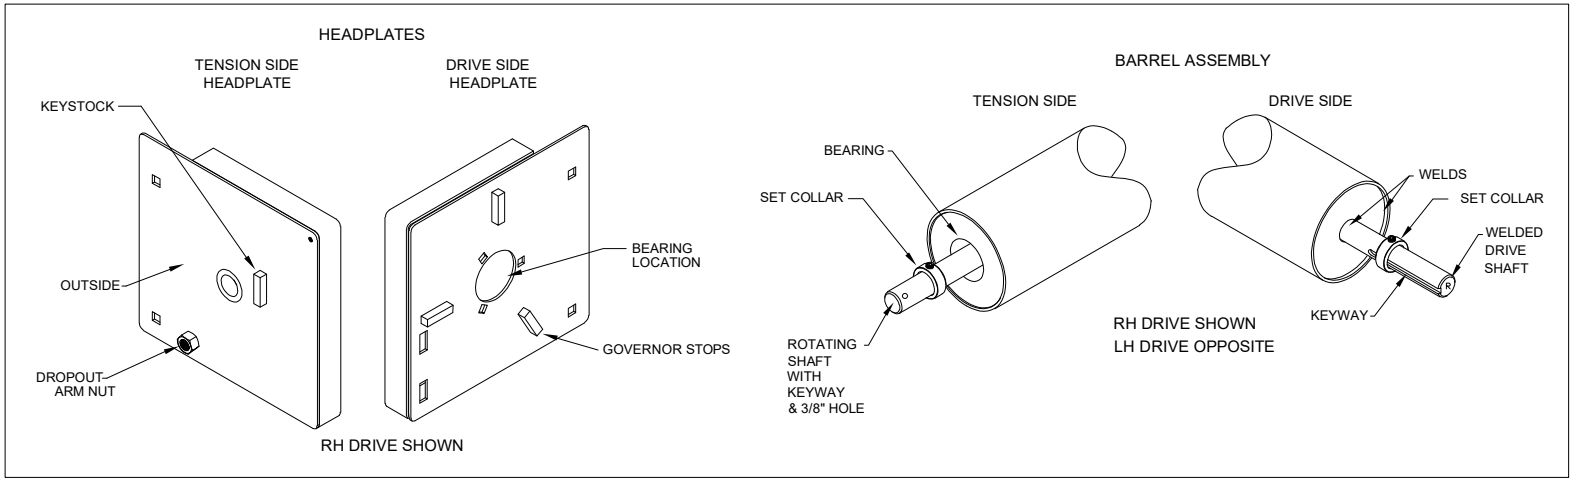

FIGURE 9
a. Proceed at ground level and identify components as shown in Figures 9, 10 and 11.